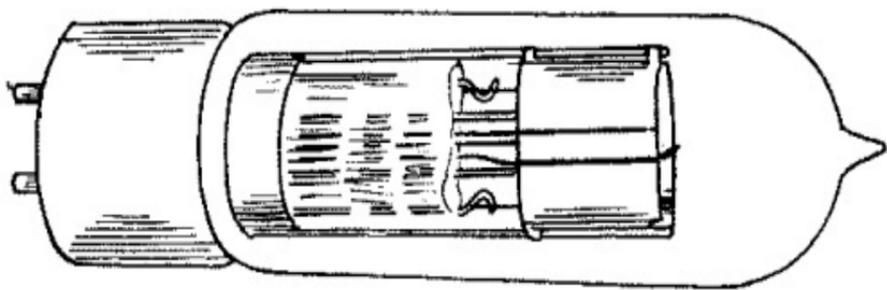

FIG. 80.—50 Watt Oscillator Vacuum Tube.
*The 50 Watt Vacuum Tube Oscillator.*--This is the size of tube generally used by amateurs for long distance continuous wave telegraphy. A single tube will develop 2 to 3 amperes in your aerial. The filament takes a 10 volt current and a plate potential of 1,000 volts is needed. One of these tubes is shown in *Fig. 80* and the cost is \$30.00. A tube socket to fit it costs \$2.50 extra.